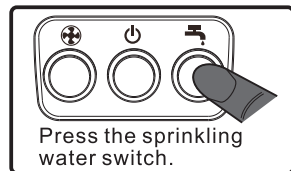

fig.14
- If the machine will be transported or stored when the environment temperature is lower than 4°C, discharge all water in the solution tank. After this, twist down the ball valve. Then, press the sprinkling water switch to sprinkle all the water stayed in the sprinkling water motor. Otherwise, because of low temperature, the water may freeze and damage the sprinkling water motor, solenoid valve and the hoses. (fig.14)